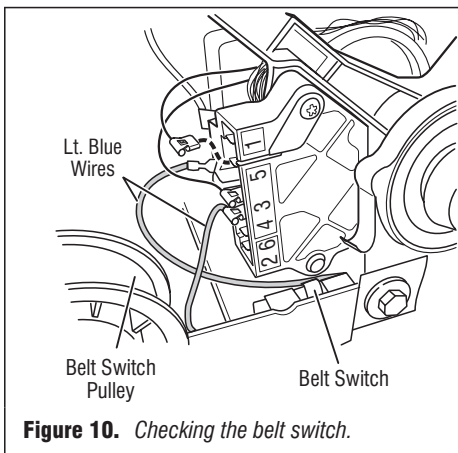

Figure 10. Checking the belt switch.
- Check the belt switch by measuring resistance between the two light blue wires, as shown in figure 10, page 6, while pushing up the belt switch pulley.